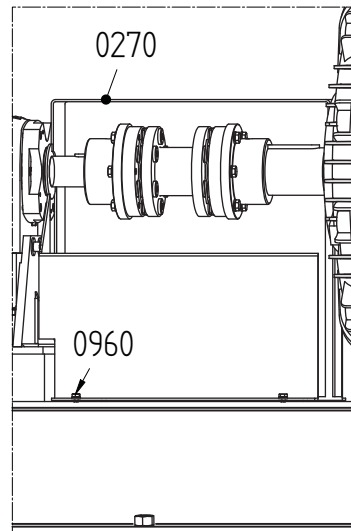

Figure 9: Fitting the guard.
- 1 Loosen bolts (0960) and remove these. See figure 9.